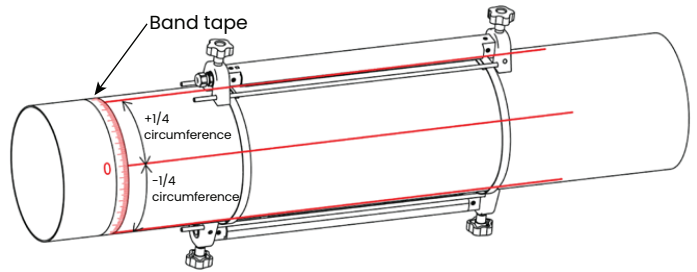

Figure 19: One traverse installation with two fixtures
- Install two mounting straps on the pipe about 12 in. (30 cm) apart (see figure 19 below).